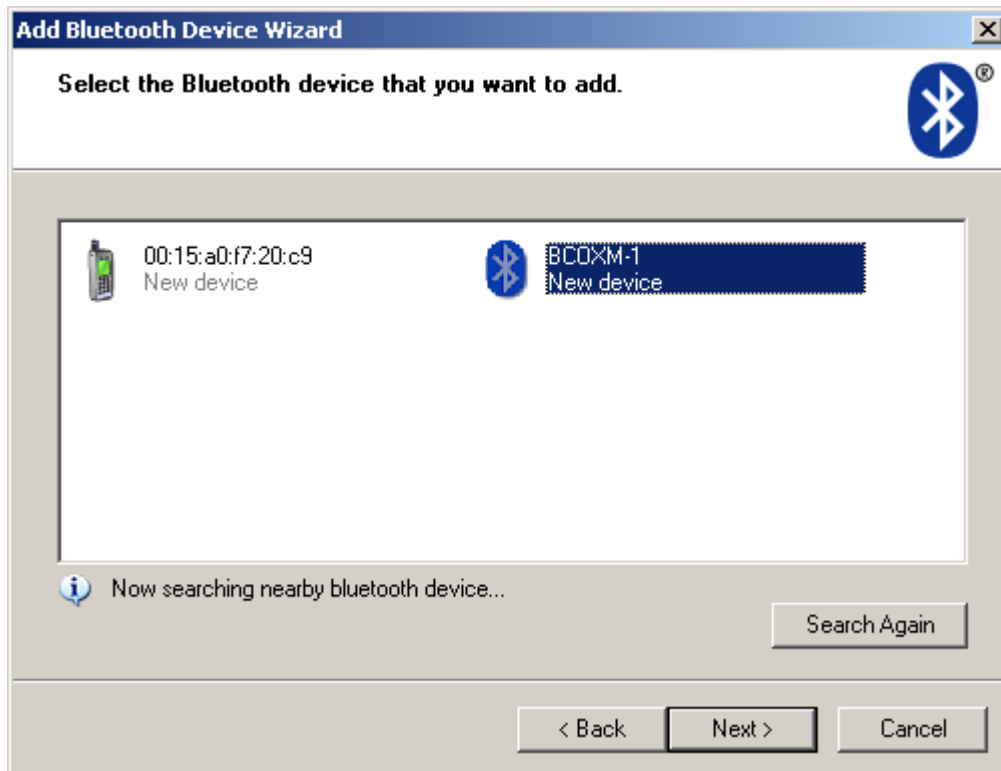

Figure 3-26
3.4.5 Click “Next” button in the interface as shown in Figure 3-25, then the following screen will appear, as shown in Figure 3-26. Select the Bluetooth® device icon, such as “BCOXM-1”, then click “Next” button.